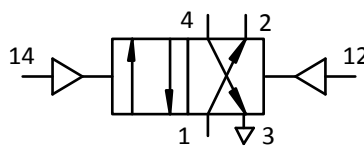

FIG 2.
B. The symbol for a 4/2 way double pilot valve is shown in Fig 2.